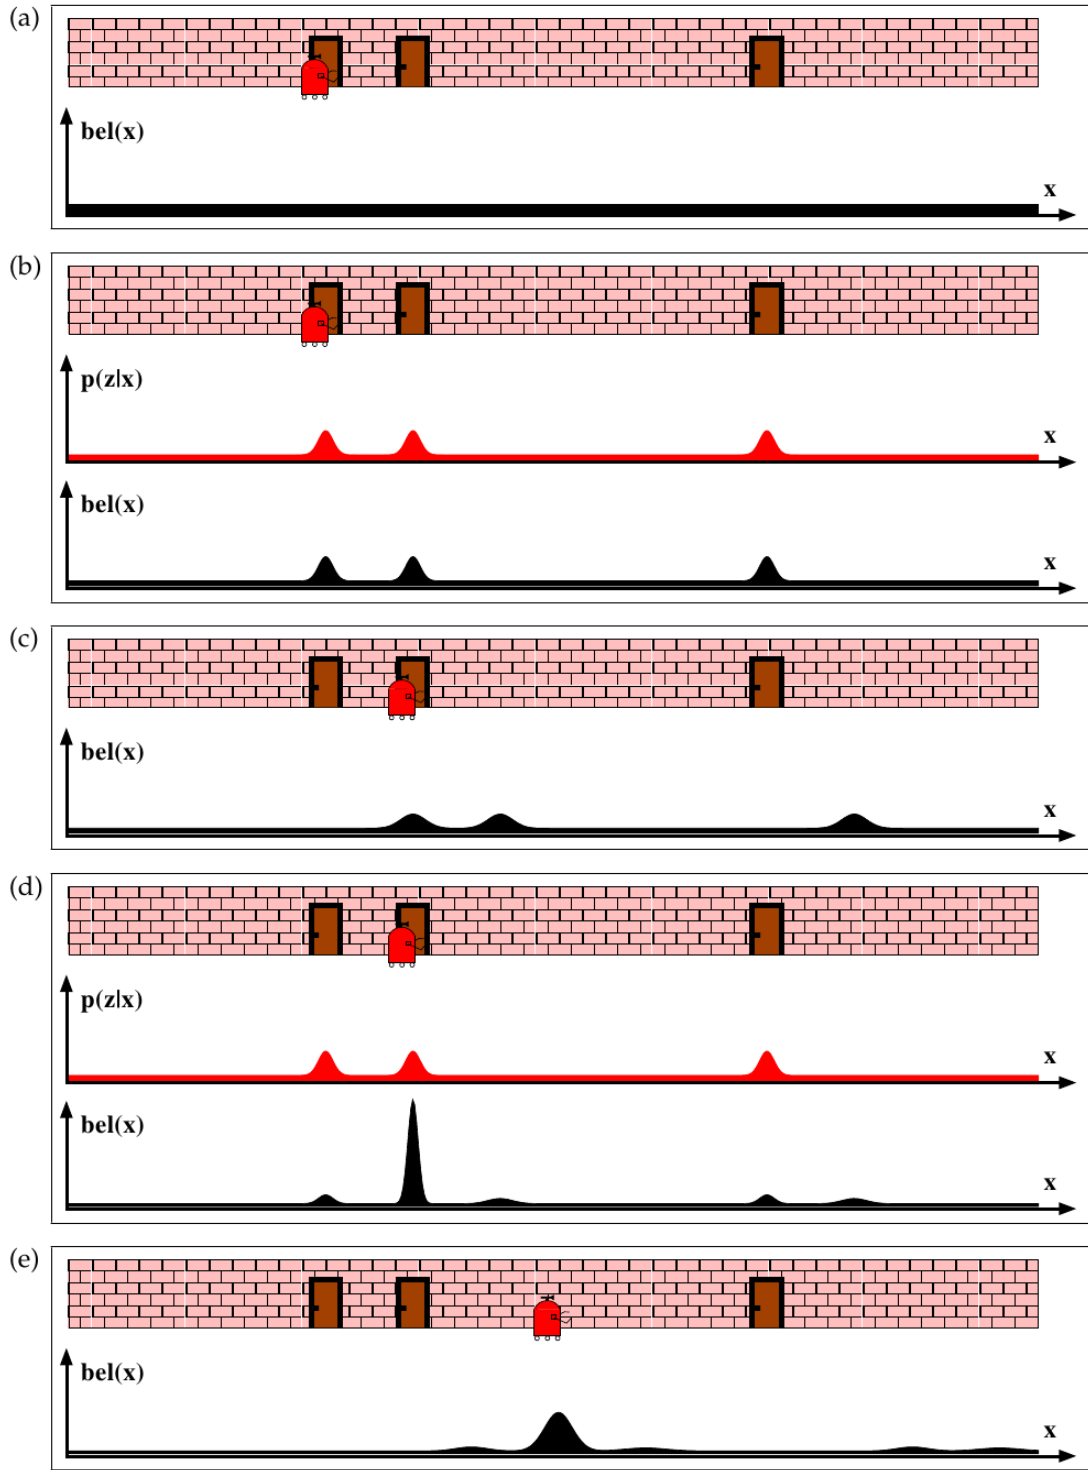

Figure 8: An illustration of global localization; courtesy of [3].
As a working example, consider the task of global robot localization illustrated in figure 8. We remark that probabilistic localization requires: (1) an initial probability distribution: $p(\mathbf{x}_0)$, (2) an action model: $p(\mathbf{x}_t|\mathbf{u}_t, \mathbf{x}_{t-1})$, (3) a perception model: $p(\mathbf{z}_t|\mathbf{x}_t, m)$ and (4) a map: m . We cover some details about this